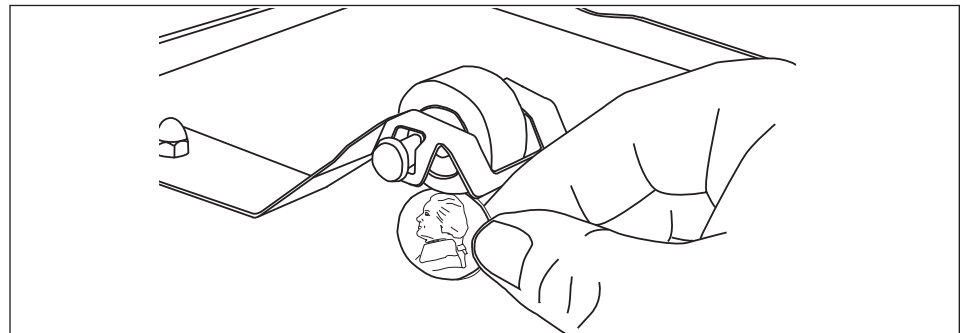

Figure 11. Measuring Roller Tensioner
NOTICE: As of March 2017, the Interlock Switch was removed from use. If your toaster has the Interlock Switch (Figure 11), you will need to place the Heat Shield onto the toaster in order for the conveyors to turn. If your toaster does not have an Interlock Switch, the conveyors will turn as long as the unit is on.
1. Measure the Roller Tensioner on both inner Conveyor Covers (Figure 11) using a U.S. Nickel.